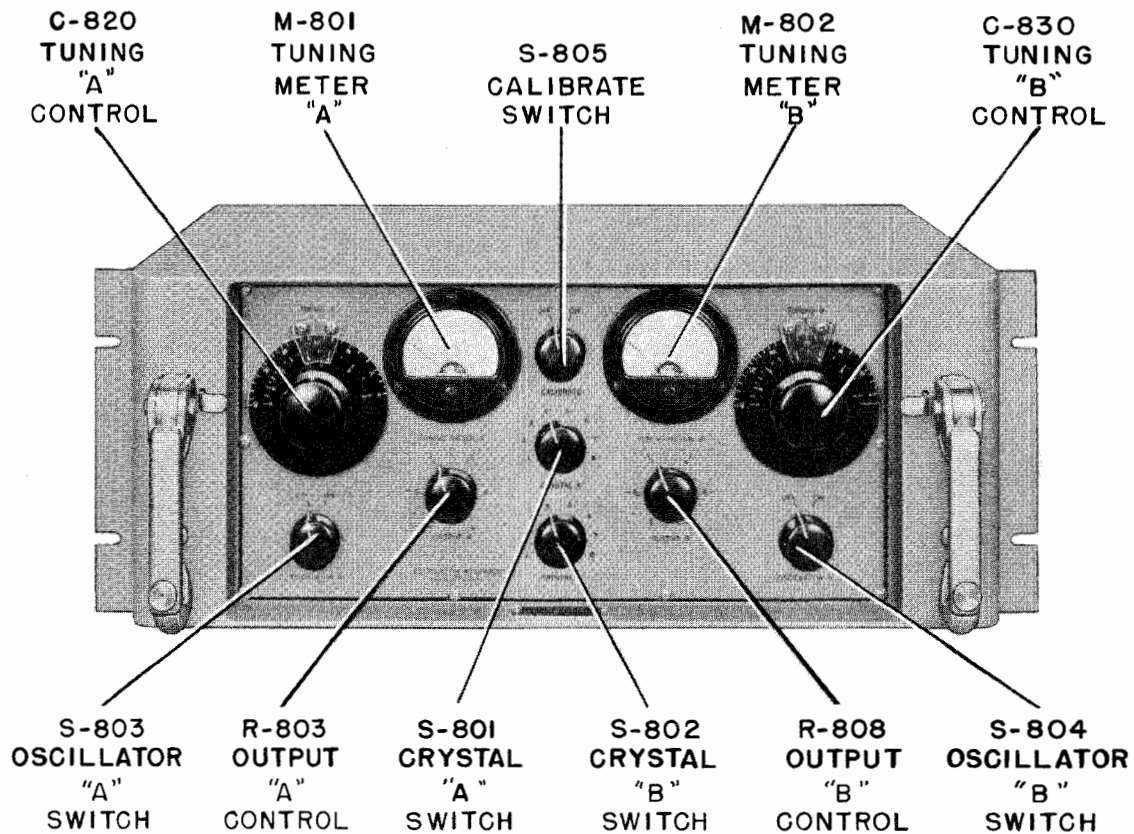

Figure 4-12. Oscillator Assembly O-131/FRR-24 (unit 2L), Front Panel Component Identification
(1) SELECTIVITY SWITCH.—This is an eight position switch which selects one of eight bandwidths from a minimum of 125 cycles to a maximum of 18 kilocycles.
b. OSCILLATOR ASSEMBLY O-131/FRR-24, UNIT 2L. (See Figure 4-12).—Crystal controlled operation